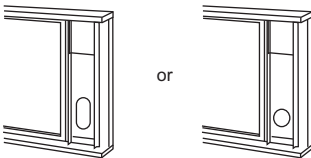

Fig. 17
5. Cut the foam seal to an appropriate length and seal the open gap between the top window sash and outer window sash. Shown as in Fig. 17.